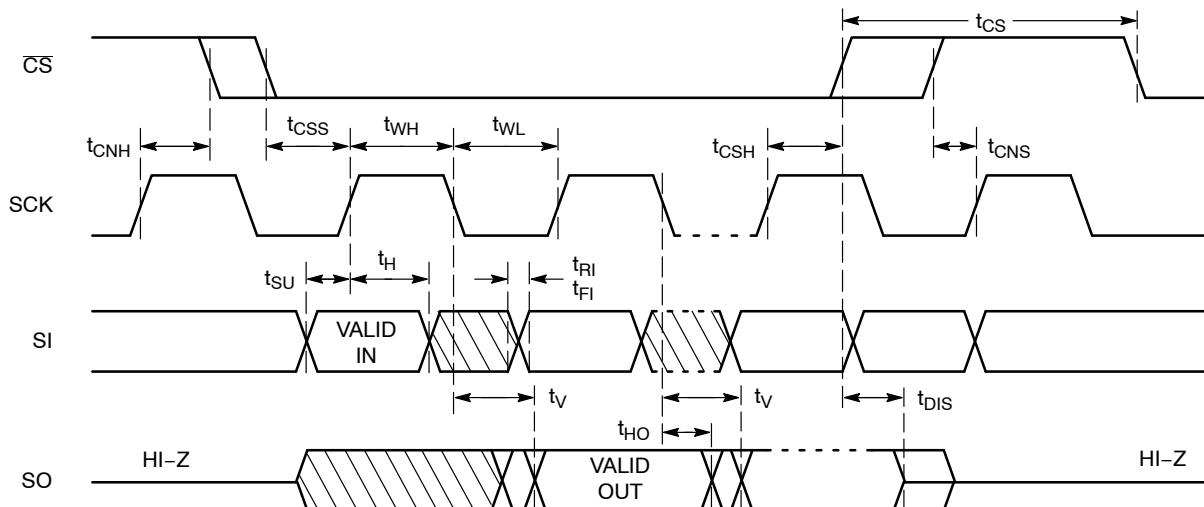

Figure 2. Synchronous Data Timing
8. **All Chip Select (CS) timing parameters are defined relative to the positive clock edge (Figure 2). t_{CSS} timing specification is valid for die revision D and higher. The die revision D is identified by letter "D" or a dedicated marking code on top of the package. For previous product revision (Rev. C) the t_{CSS} is defined relative to the negative clock edge (please refer to data sheet Doc. No. MD-1006 Rev. U)**
After a high to low transition on the $\overline{\text{CS}}$ input pin, the CAT25010/20/40 will accept any one of the six instruction op-codes listed in Table 9 and will ignore all other possible 8-bit combinations. The communication protocol follows the timing from Figure 2.